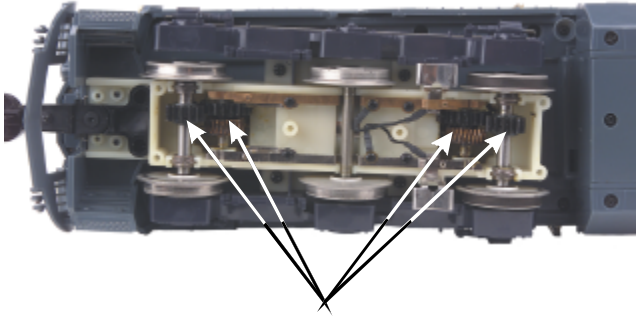

Figure 12: Grease Points Inside Power Truck
2. After removing the truck bottom plate mounting screws, liberally apply grease to the gears attached to both the outside axles as seen in Figure 12.